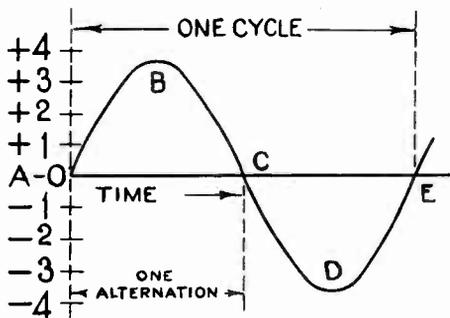

Fig. 12. Graphical picture of one cycle of alternating current.
21. ALTERNATING CURRENT: It is perhaps difficult for the average non-technical person to grasp the idea of the flow of alternating current along a wire, but possibly a simple explanation may make this clear. Let us consider a fixed point in a wire carrying an alternating current. Starting at some instant when current just begins to flow, let us observe its strength and direction over a short period of time. The current begins to flow in one direction, gradually increasing in strength to a maximum value, then still flowing in the same direction, it decreases again to zero. Now it begins to increase in strength once more but has reversed its direction, reaches a maximum strength and decreases again to zero. It now reverses once more and the cycle is completed over and over again. A chart showing the cycle of events is given in Fig. 12. Here the flow of current in one direction is drawn